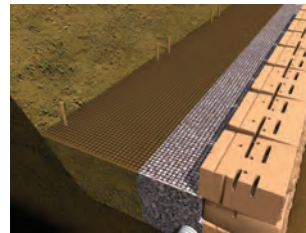

Figure 3
5. Place drainage aggregate against back of units and on top of VERSA-Grid. Remove slack by pulling the grid backward from the wall face and anchoring at back edge (Figure 3).